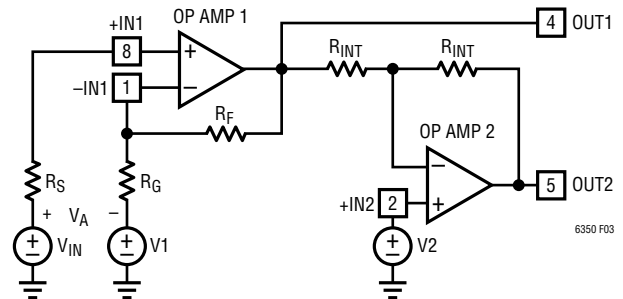

Figure 3. General Configuration
Because the input op amp presents its output and both its inputs to LT6350 pins, alternative configurations are possible. Consider the general configuration shown in Figure 3.
The simple connection described in the Basic Connections section can be seen as a special case of the general circuit in Figure 3 where R_F is a short circuit, R_G is an open circuit, and the voltage at V_{IN} is centered around the voltage $V2$. If differential gain greater than two is needed, the values of R_F and R_G can be adjusted in accordance with Equation (2). Additional information about feedback networks is given in the next section and in the Input Amplifier (Op Amp 1) Feedback Components section.
Although the previous examples have assumed the input signal is applied at +IN1, it is also possible to use the input op amp in an inverting configuration by fixing the voltage V_{IN} and applying the input signal at $V1$ of Figure 3. Using the input op amp in the inverting configuration fixes its input common mode voltage at the voltage V_{IN} , which allows the input signal at $V1$ to traverse a swing beyond the LT6350 supply rails. To avoid unwanted differential offsets in this configuration V_{IN} should be chosen such that:
When feedback resistors are used to set gain in op amp 1, care should be taken to ensure that the pole formed by the feedback resistors and the total capacitance at the inverting input, -IN1, does not degrade stability. For instance, to set the LT6350 in a differential gain of +4, R_F and R_G of Figure 3 could be set to 1k Ω . If the total capacitance at -IN1 (LT6350 plus PC board) were 3pF, a new pole would be formed in the loop response at 106MHz, which could lead to ringing in the step response. A capacitor connected across the feedback resistor and having the same value